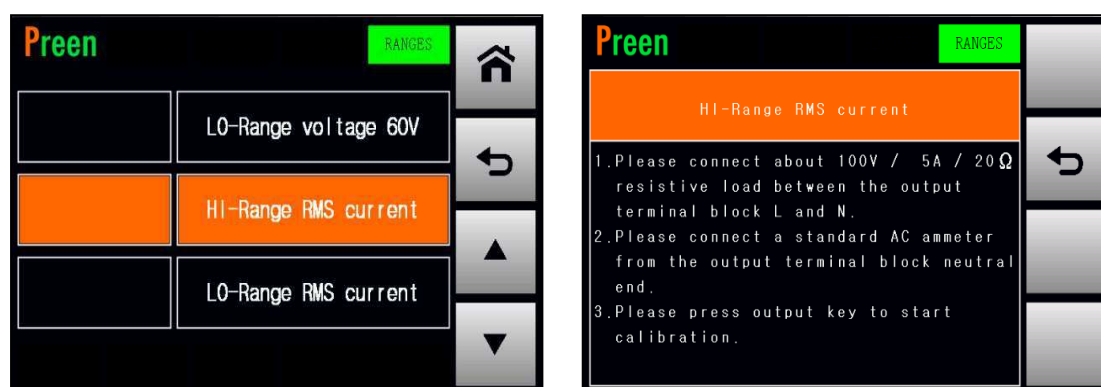

Figure 4-5-1 Enter into the page which calibrates the HI-Range RMS current.
1. Press the item  repeatedly to enter into the page which calibrates the HI-Range RMS current (refer to Figure 4-5-1).